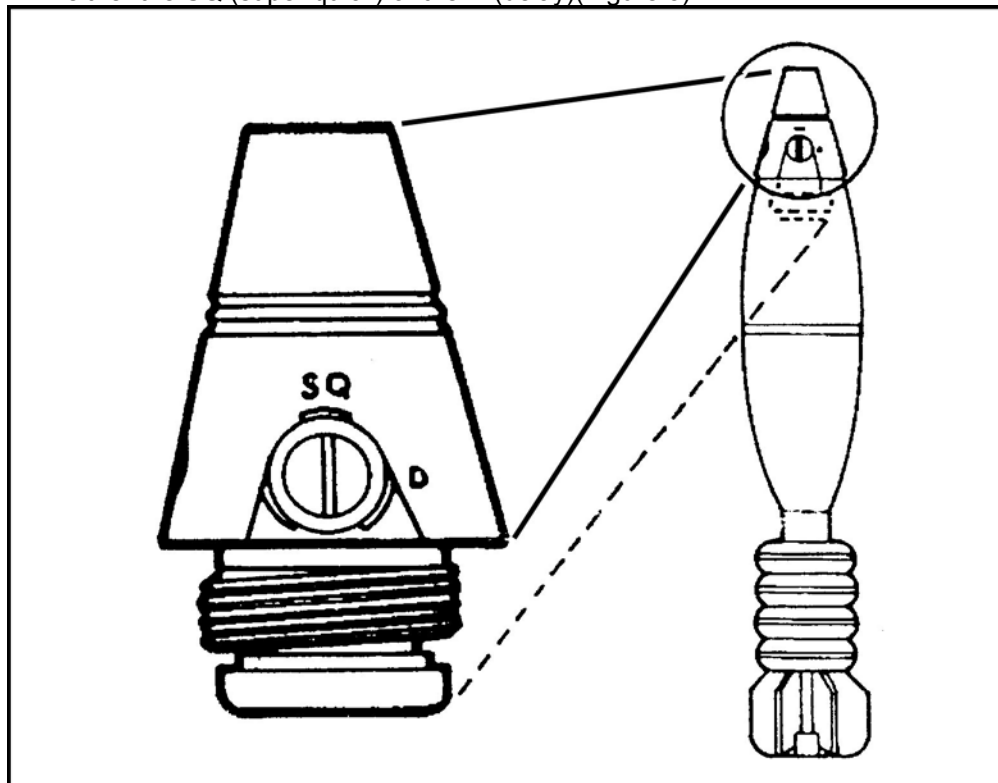

Figure 5. Setting function of the M935 fuze.
- (1) To prepare for firing, turn the selector slot in a clockwise direction until the slot aligns with either the SQ (super quick) or the D (delay)(Figure 5).